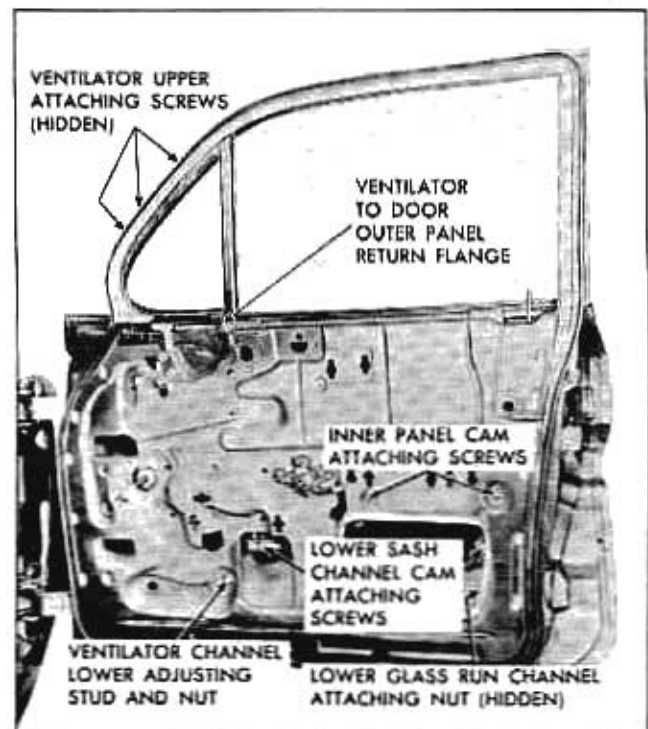

Fig. 2-24 Front Door Inner Panel
4. Remove ventilator division channel lower adjusting stud and nut (Fig. 2-24).
4. Remove screws securing window lower sash channel cam to window assembly and carefully disengage cam from window lower sash channel (See Fig. 2-24).
1. To correct a condition where glass is cocked in glass run channels, loosen inner panel cam attaching screws, adjust cam up or down as required and tighten screws (Fig. 2-24).
2. To adjust lower portion of ventilator division channel for proper alignment with door window assembly, lower door window and loosen ventilator adjusting stud nut. Turn adjusting stud in or out or position lower end of channel fore or aft as required; then tighten adjusting stud nut (Fig. 2-24).
3. To adjust lower portion of window glass run channel in or out for proper alignment with door window, raise door window. From inside door, loosen glass run channel lower attaching nut or screw, adjust channel as required and tighten nut or screw (Fig. 2-24).
3. Through inner panel access hole loosen nut or screw securing lower end of glass run channel (Fig. 2-24).